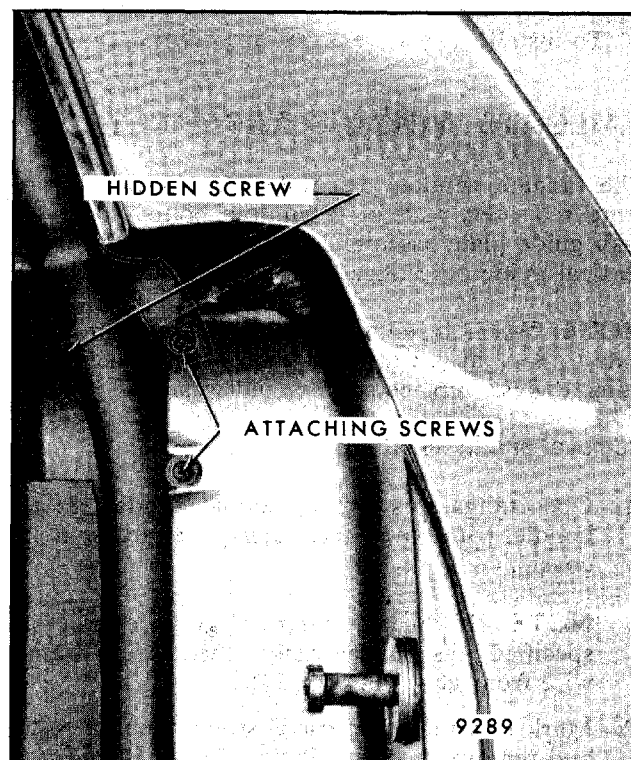

Fig. 7-132 - Tailgate Weatherstrip Screw Retained
3. Remove three weatherstrip attaching screws at belt from right and left sides, Figure 7-132.